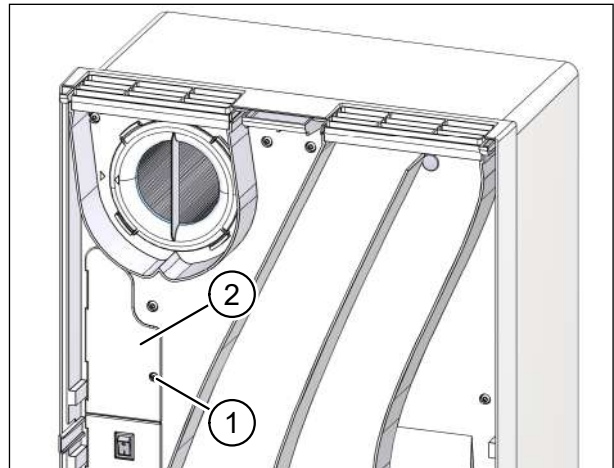

Fig. 35: Removing the electronics compartment cover plate
- ▶ Use the screwdriver to loosen the Torx screw (item 1 in Fig. 35) on the electronics compartment cover plate (item 2 in Fig. 35).